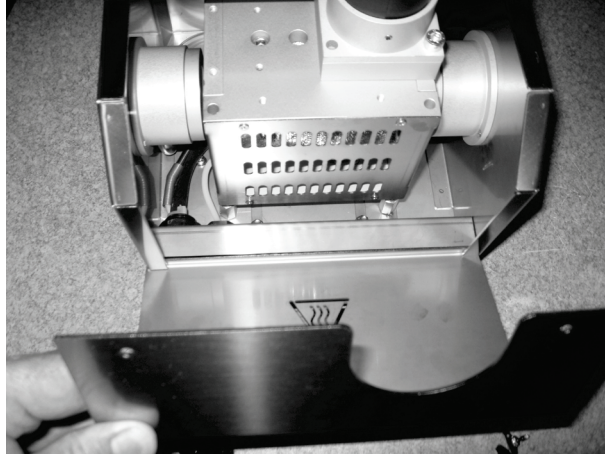

Figure 4 Removing the gas flow cell cover
4. Carefully remove the front cell cover to reveal the internal cell assembly (Figure 4).